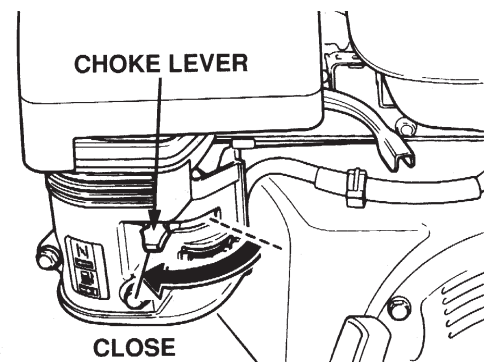

Figure 22. Choke Lever (Closed Position)
6. If operating the SP2 in **cold weather conditions**, place the **Choke Lever** (Figure 22) in the **CLOSED** position.
9. If the engine has started, slowly return the choke lever (Figure 22) to the **CLOSED** position. If the engine has not started repeat steps 1 through 8.
4. If operating the SP2 in **cold weather conditions**, place the **Choke Lever** (Figure 22) in the **CLOSED** position.